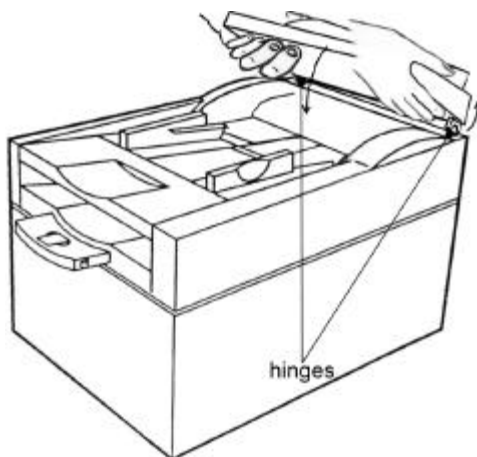

fig. 4.3
- 4) push down the CP front edge, while keeping fingers as described at point 3, until the rear CP hinges snap out. (figure 4.3)